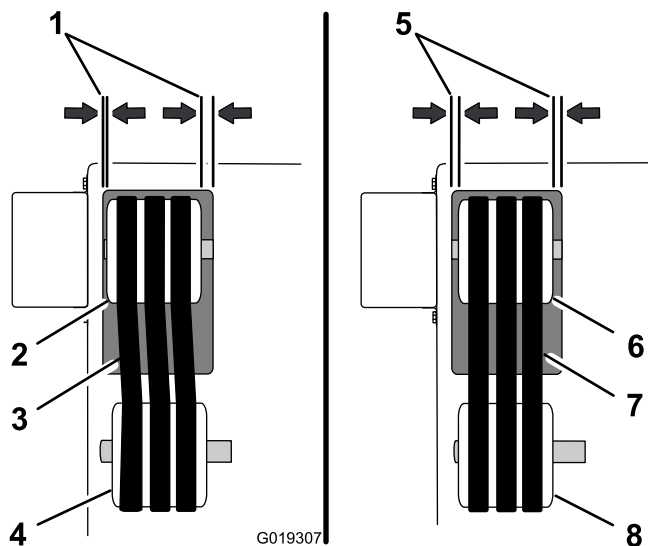

Figure 49
2. Check that the arbor pulley is centered in the opening in the base of the machine. If the arbor pulley is misaligned, refer to step 3 in Aligning the Pulleys (page 36) (Figure 49).
3. Check pulley alignment by looking at the sides of the belts, each should run in a straight line over and between each pulley (Figure 49). If the belts and pulleys are misaligned, align the pulleys; refer to Aligning the Pulleys (page 36).
3. If the arbor pulley is misaligned in the opening of the base of the machine or loose on the arbor (Figure 49), do the following: